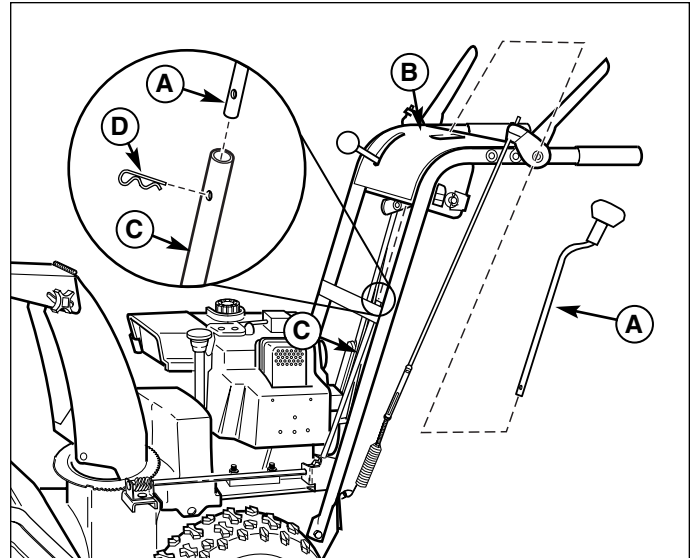

Figure 7. Control Levers (Folding Handle Models)
On models with folding handles the spout rotator is two pieces and needs to be connected. Remove crank handle (A, Figure 7) from its packaging. Slide crank handle (A) through dash (B) and slide into crank tube (C) line up holes and secure with hair pin (D).